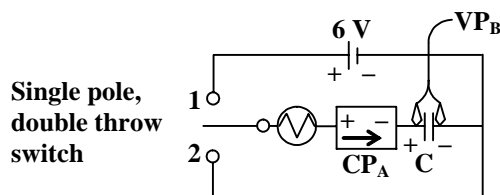

Figure 2-2: Current and voltage probes connected to Figure 5-4 circuit.
5. Connect the probes in the circuit as in Figure 2-2 to measure the current through the light bulb and the potential difference across the capacitor.
2. Replace the light bulb in your circuit (Figure 2-2) with a  $100\ \Omega$  resistor, and the large capacitor with one in the  $80\ \mu\text{F}$  to  $120\ \mu\text{F}$  range. (Use the RLC circuit board.) Move the switch to position 2. **Begin graphing** and immediately move the switch to position 1. Data taking will cease automatically.